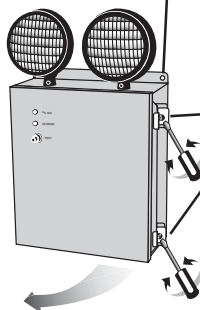
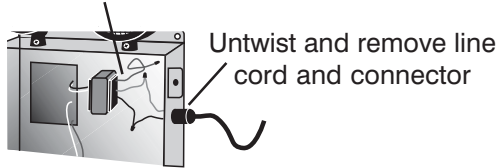

Figure 1
Figure 2
2. Mount the unit securely into place. There are four (4) mounting holes provided (one at each corner) on the unit. Fasten a single, appropriately sized screw or mounting bolt (not supplied) through each hole and into the mounting surface/wall. Each fastener must be securely in place to properly support the unit.
4. Open the cabinet by unscrewing the two (2) cover screws located on the right side of the unit (Figure 1). The hinged front door can then be swung open.
2. Open the unit by unscrewing the two (2) cover screws on the side of the unit (Figure 1). The hinged door can then be swung open.
4. Mount the unit securely into place. There are four (4) mounting holes provided (one at each corner) on the unit. Fasten a single, appropriately sized screw or mounting bolt (not supplied) through each hole and into the mounting surface/wall. Each fastener must be securely in place to properly support the unit.
5. If the unit is equipped with a 120VAC line cord it will have to be removed. Trace the incoming wires from the line cord to the wire connectors inside the cabinet. Disassemble the connectors and separate the line cord wires from all other wires. Untwist the line cord dust-tight connector and remove the line cord (Figure 2).